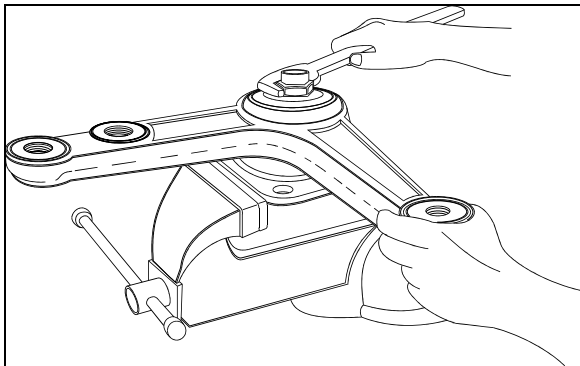

FIGURE 11: BELL CRANK 16044
5. Firmly tighten nut (Fig. 11).